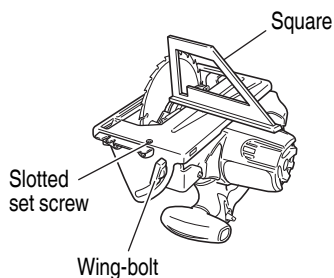

Fig. 21
#### (1) Turn the base face up (Fig. 21) and loosen the wing-bolt.